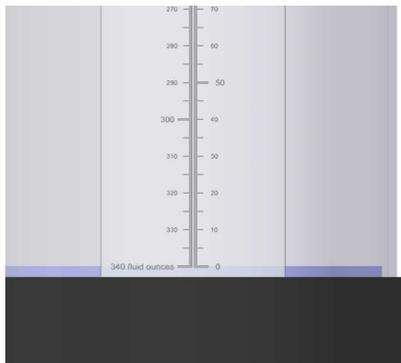

Figure 1
9. Using the stop watch, determine the pump flow rate. Keeping the pump running, position the valve on top of mix tank to CALIBRATION TUBE. When liquid reaches 0 (zero) or an even number, begin timing for one minute. (see Figure 1, below)